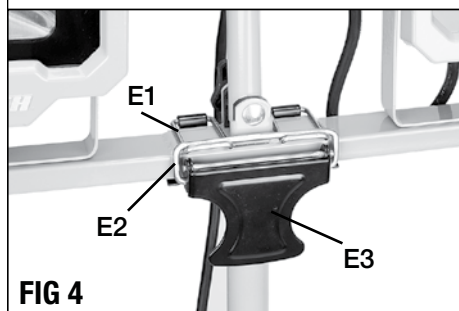

FIG 4
ATTACHING THE WORK LIGHT ASSEMBLY TO THE TRIPOD (FIG 4)
2. Use the bracket locking system (E1, E2 and E3) to secure the work light assembly to the tripod as shown in FIG 4.